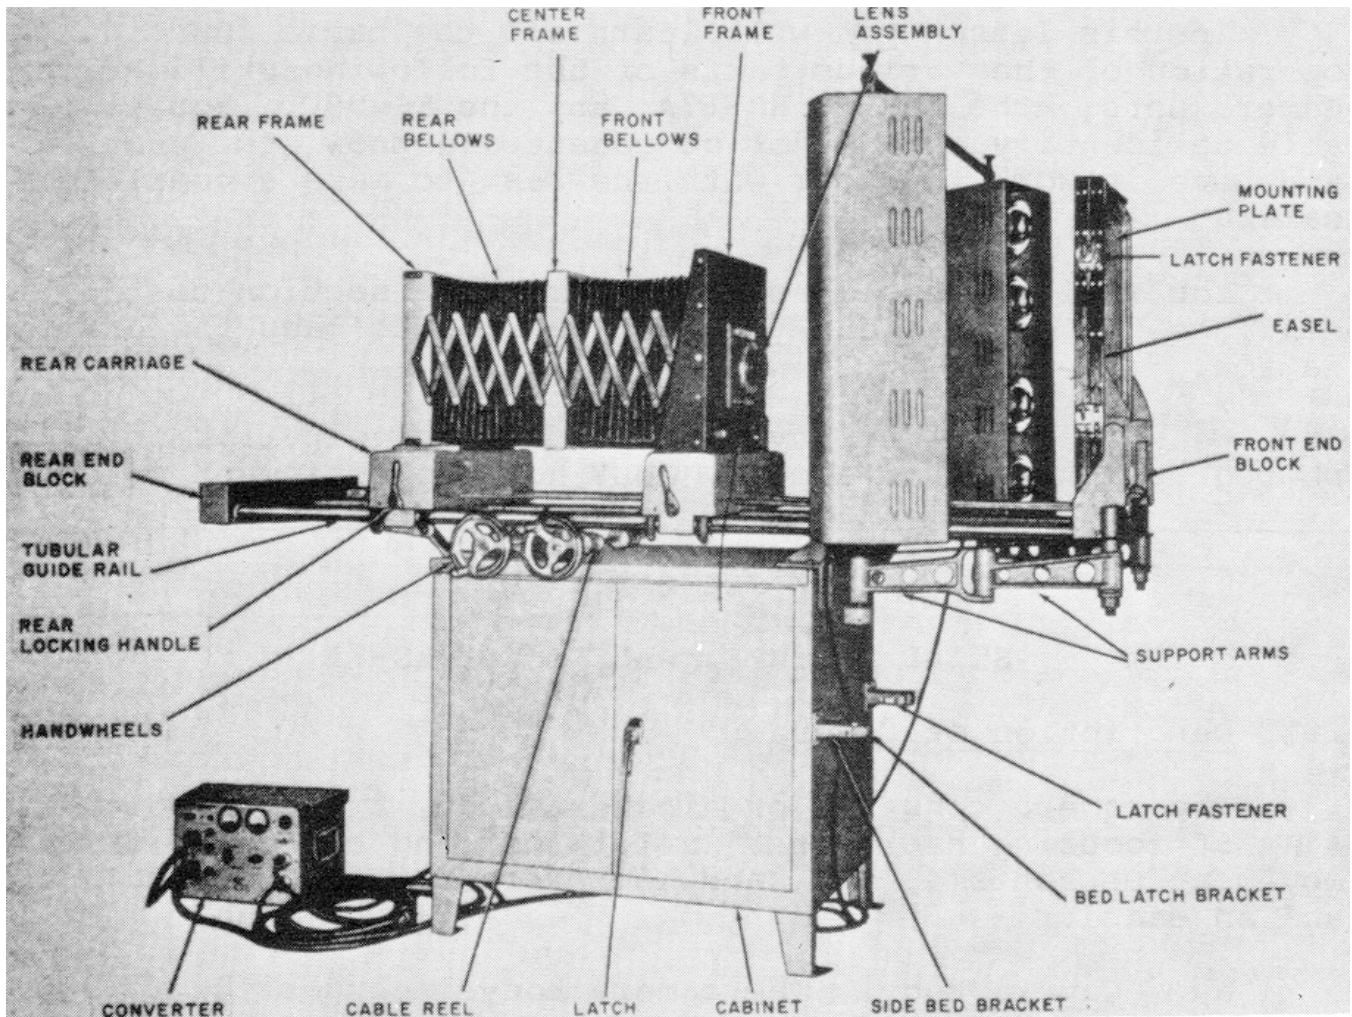
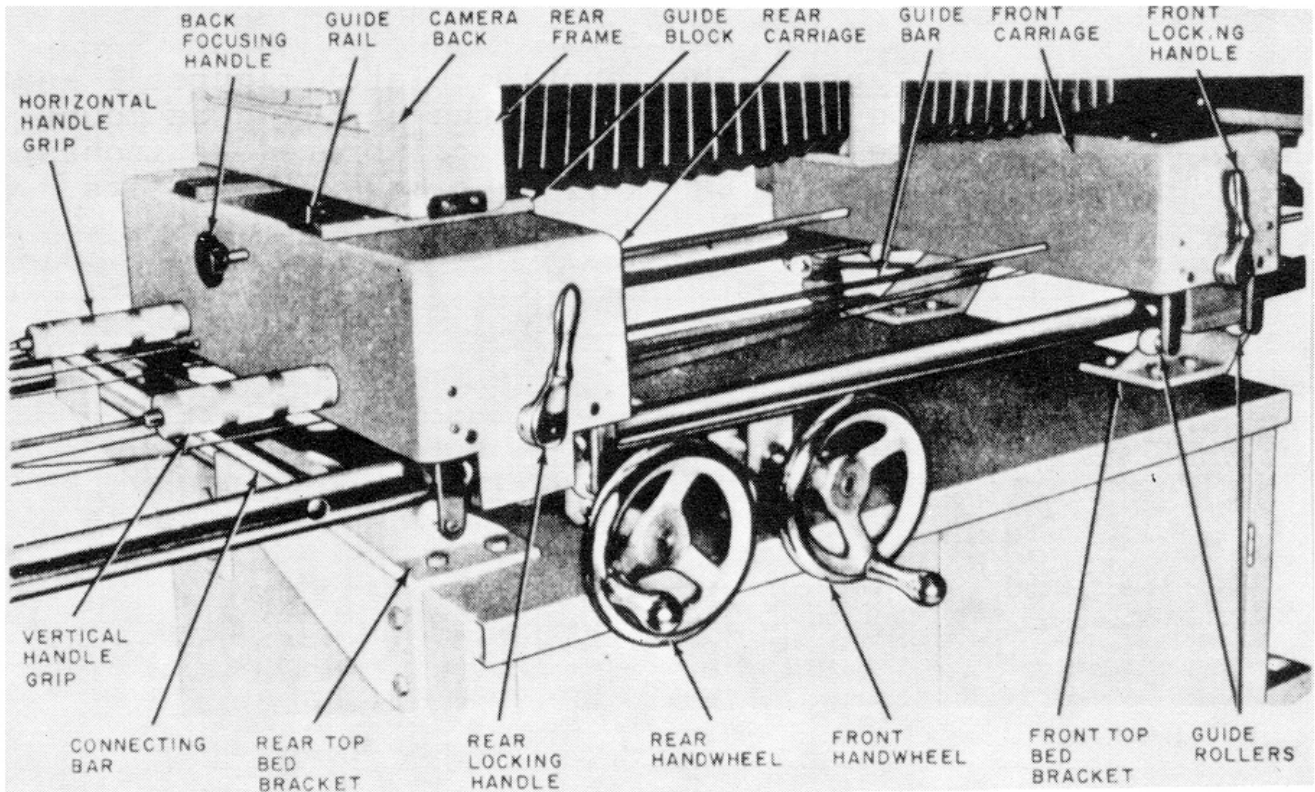

FIGURE 1. Camera set, set up for horizontal operation, right-front view.
FIGURE 2. Camera, showing location of controls, partial view.
(1) A front frame (figure 1) for mounting the lens assembly. The front frame contains a front stationary plate and two front movement plates (horizontal and vertical).
(2) A front bellows (figure 1) and a rear bellows which provide a flexible lighttight compartment (body).
(3) A center frame for securing the bellows in the center of the camera body.
(4) A rear frame for mounting the focusing backs. A clip at each corner of the rear frame provides the means for securing the focusing back to the rear frame.
b. Carriages. The front and rear carriages (figure 1) are castings that are secured to the front and rear frames respectively. The carriages house the camera movement and locking mechanisms, and the slides that ride on the tubular guide rails.
(1) 4" x 5" focusing back. The 4" x 5" focusing back is interchangeable with the 8" x 10" focusing back [(2) below]. The focusing panel shield (figure 2) is secured within the focusing back by two springs. A ground focusing glass is mounted within the focusing panel shield. Horizontal and vertical lines on the ground focusing glass provide a scale to align the image.
(2) 8" x 10" focusing back. The 8" x 10" focusing back is interchangeable with the 4" x 5" focusing back [(1) above]. The focusing panel shield is secured within the focusing back by a screw in each corner. A ground focusing glass is mounted within the focusing panel shield. Horizontal and vertical lines on the ground focusing glass provide a scale to align the image.
d. Front movement mechanisms. The front movement mechanisms provide the facilities for horizontal movement or for the vertical movement of the lens assembly. Each mechanism consists of a guide bar (figure 2) that runs the full length of the carriage bed, a handle grip, and a gear arrangement.
e. Handwheel assemblies. Two handwheel assemblies are provided for movement of the camera carriages. The handwheels (front and rear) (figure 2), through a system of cable reels and wire ropes, move the camera carriages forward and backward as required.
f. Camera bed. The camera bed includes two tubular guide rails (figure 1) with an end block at each end. Wire-rope pulleys are secured to brackets within the end blocks. Two connecting bars between the tubular guide rails provide additional rigidity for the camera bed.
g. Easel. The easel (figures 1 and 3) is hinge-mounted on the front end and includes a blasted glass secured within the easel frame. Five interlocking photographic masks [(1) below] are supplied to hold-copy to the glass frame. Both the glass frame and the masks use clips to secure copy, or the next smaller mask, to the easel. A calibrated mounting plate [(2) below], mounted on a sponge rubber padded mounting board, and two glass plates are also part of the easel.
(2) Mounting plate. The mounting plate (figures 1 and 3) is used to provide copy support on the easel. The mounting plate has a white imprinted scale, calibrated in inches, and a border imprinted for 8 1/2" x 11" and 8 1/2" x 14" sheets.
a. The cabinet (figure 1) is a completely enclosed unit with an adjustable shelf. The doors of the cabinet can be locked close by a latch located on the right-hand door.
b. Two rear top bed brackets (figure 2) and two front top bed brackets, mounted on the cabinet, hold the camera during horizontal operation. During vertical operation, the camera is held by two side bed brackets and the two front top bed brackets and is secured in position by bed latch brackets and latch fasteners (figure 1).